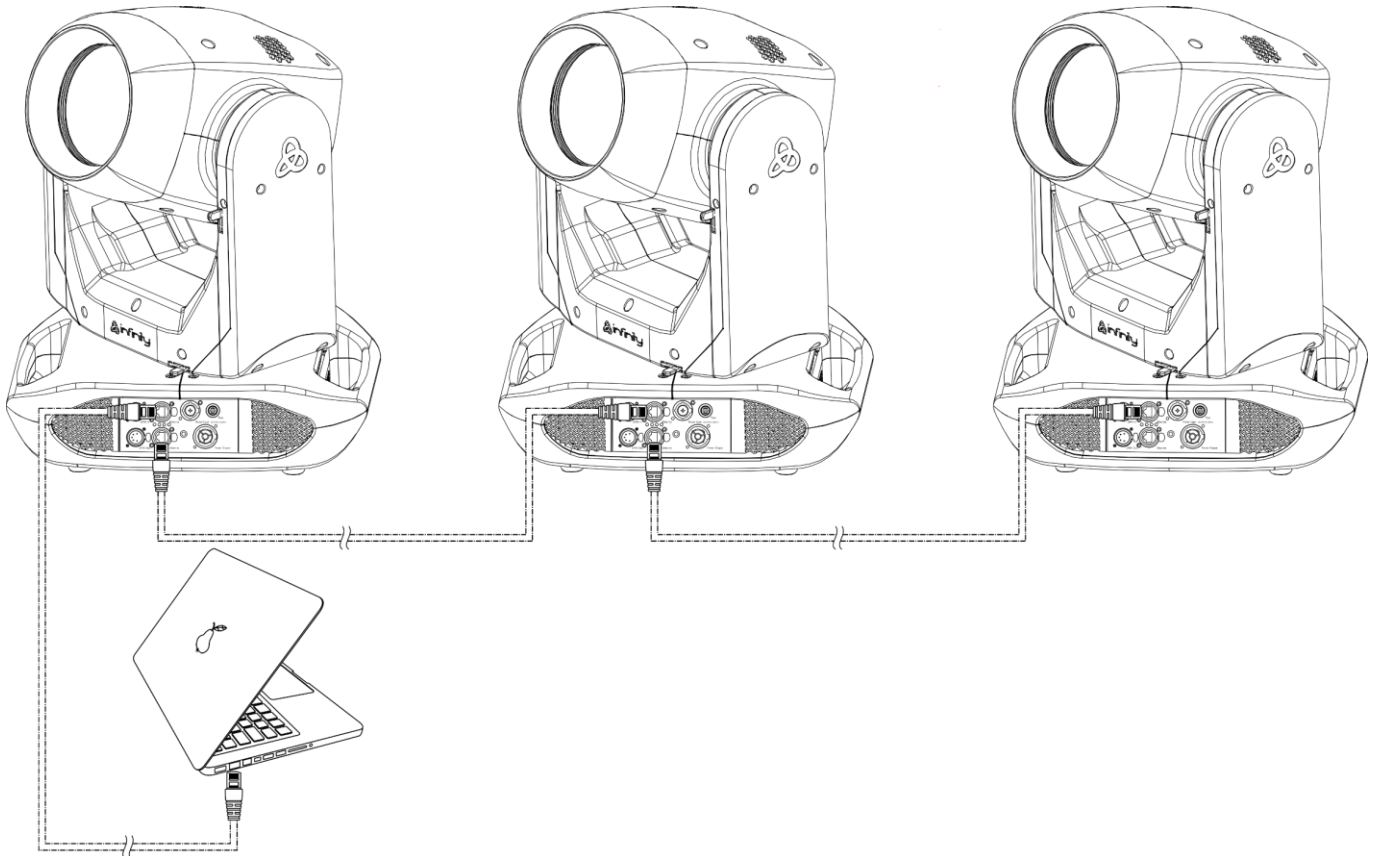

Fig. 13
- 05) Link the units as shown in Fig. 13. Connect the first unit's RJ45 "out" socket with the second unit's "in" socket, using a CAT-5/CAT-6 cable. Repeat this process to link the rest of the units.